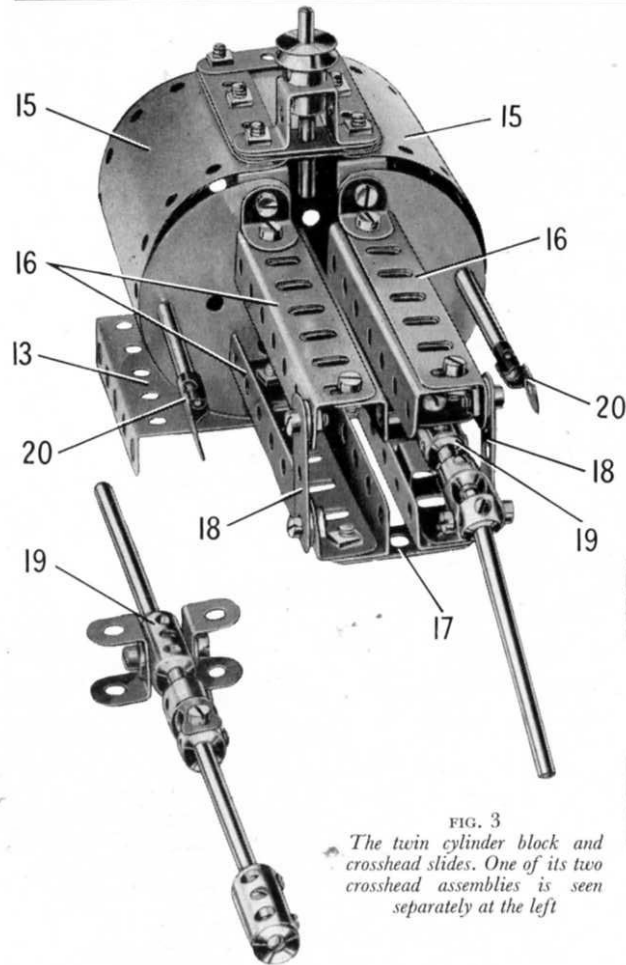

FIG. 3
The cylinder block is assembled on a $3\frac{1}{2}$ " \times $2\frac{1}{2}$ " Flanged Plate (13) (Fig. 3) fitted at each flange with
The Crankshaft and Valve Control Eccentrics (Figs. 3, 6, 7 and 8)
The outer crankshaft webs are each made from a Flat Trunnion fitted with a Double Arm Crank (28) and a Crank (29). The inner web is made from two Flat Trunnions bolted together at right angles, the bolts holding also the Cranks (30) (Fig. 7). The webs are held together by 1" Rods fixed in the Cranks (29) and (30), and a $1\frac{1}{2}$ " Strip bolted to an End Bearing (31) is carried on each Rod. The crank webs are fixed on a $4\frac{1}{2}$ " Rod (32) (Fig. 6) on one side and a 4" Rod (33) on the other. A Triple Throw Eccentric is fixed on each Rod, and these are linked by made-up strips to the Rod and Strip Connectors (20) (Fig. 3) on the valve rods. The End Bearings (31) (Fig. 6) are connected by made-up rods to the Swivel Bearings on the piston rods. The made-up strips are formed by $5\frac{1}{2}$ " Strips overlapped, and each made-up rod consists of a 2" and a $2\frac{1}{2}$ " Rod joined by a Coupling.